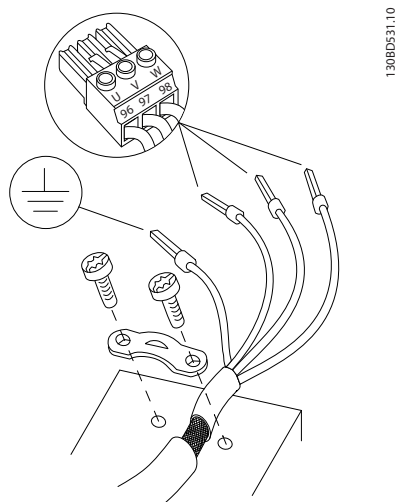
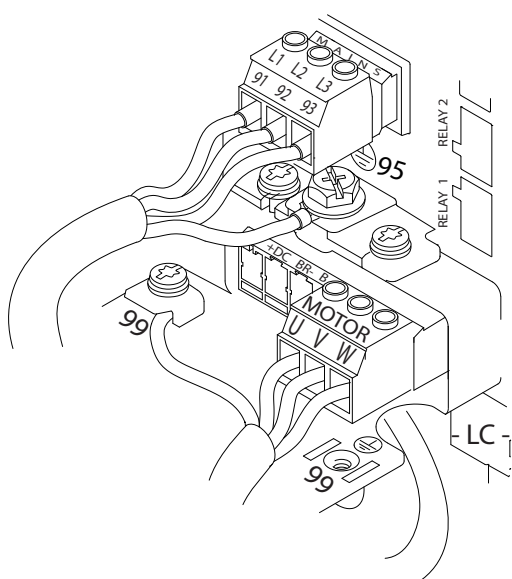

Figure 4.5 Motor Connection
Figure 4.6 Example of Motor, Line Power and Ground Wiring
- Establish electrical contact between cable shield and adjustable frequency drive enclosure by using metal cable connectors or by using the clamps provided on the equipment (see *Figure 4.5* and *Figure 4.6*).
- Connect ground wire to the nearest grounding terminal in accordance with grounding instructions provided in chapter 4.3 Grounding, see Figure 4.5.
- Connect the 3-phase motor wiring to terminals 96 (U), 97 (V), and 98 (W), see Figure 4.5.
Figure 4.6 represents line power input, motor, and grounding for basic adjustable frequency drives. Actual configurations vary with unit types and optional equipment.
1. Connect 3-phase AC input power wiring to terminals L1, L2, and L3 (see *Figure 4.6*).